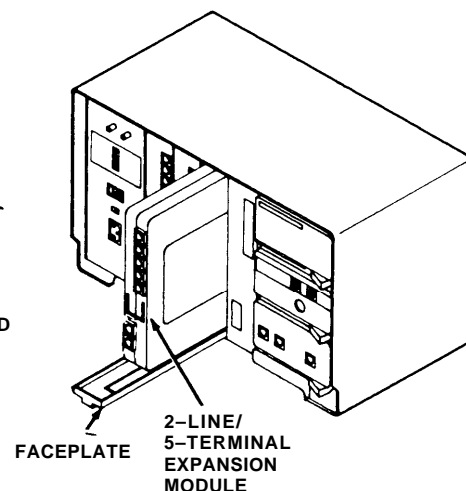

Figure 5
4. Slide the module slowly and steadily into the slot (Figure 5) until it is properly seated.